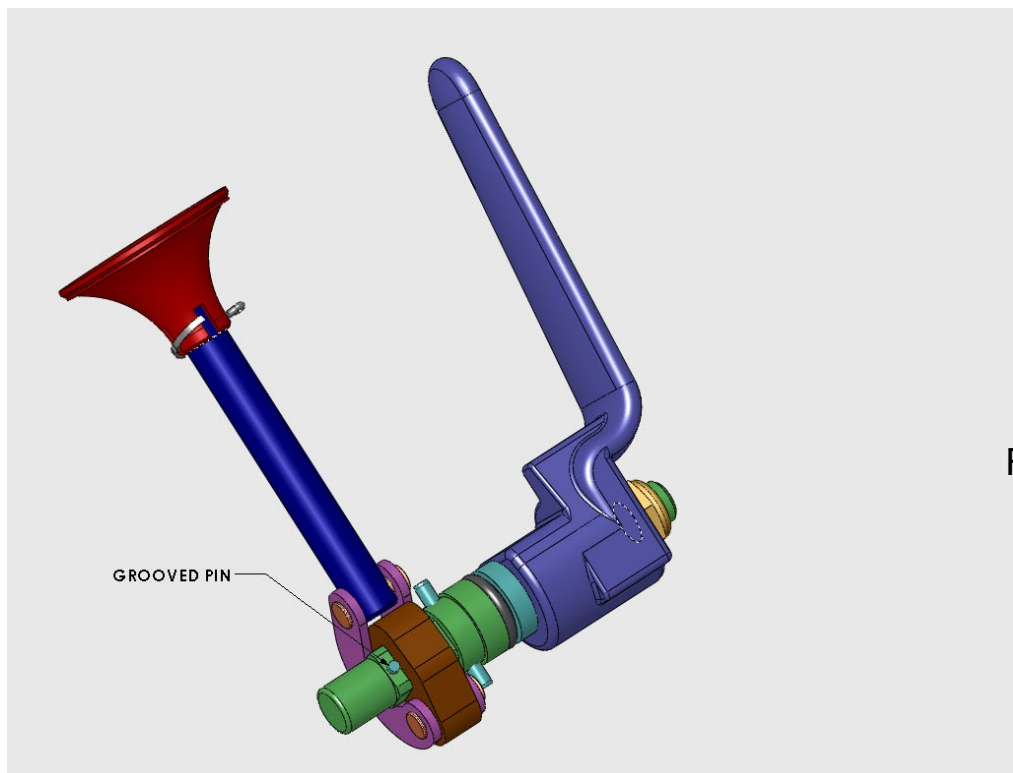

Figure 1
12. Install the LEVER onto the SHAFT making sure the hole in the SHAFT that will have the GROOVED PIN inserted later is orientated as shown in Figure 1.
14. Lubricate the O-RING on the SHAFT and with the LEVER in the counterclockwise position (POPPET open position) insert the SHAFT & LEVER assembly into the BODY and through the square hole in the LINK. See Figure 1 for the correct orientation of the BENT LINKS when the LEVER is rotated to the "POPPET closed" position.